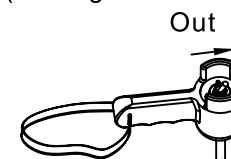
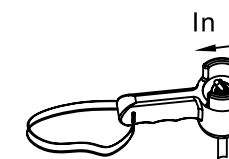

Figure11
Figure12
- When wire rope goes in, the switch trigger is in the position of **IN** (See figure 11 and figure 12)